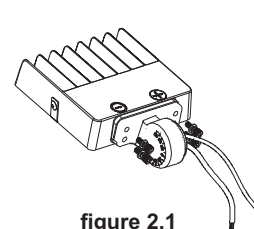

figure 2.1
- Step 2: Pass the wire through the mounting head of the bracket and fix it with an inner hexagon screw; (Watch out not to scratch the wire); (figure 2.1)